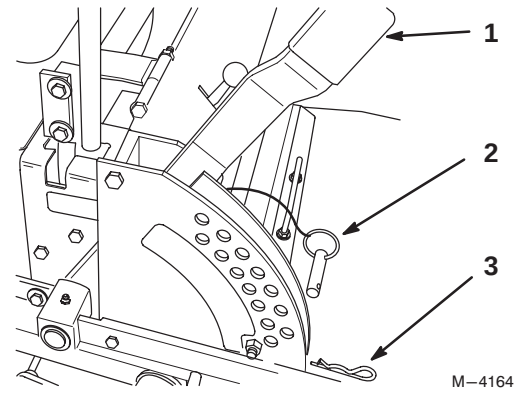

Figure 10
1. Press your foot on the lift assist pedal while raising the height-of-cut lever to the transport position (also the 5" (127 mm) cutting height position) (Fig. 10).
2. To adjust, remove hairpin cotter and clevis pin from height-of-cut bracket (Fig. 10).
3. Select hole in height-of-cut bracket corresponding to the height-of-cut desired, and insert clevis pin (Fig. 10).
4. Secure clevis pin with hairpin cotter (Fig. 10).